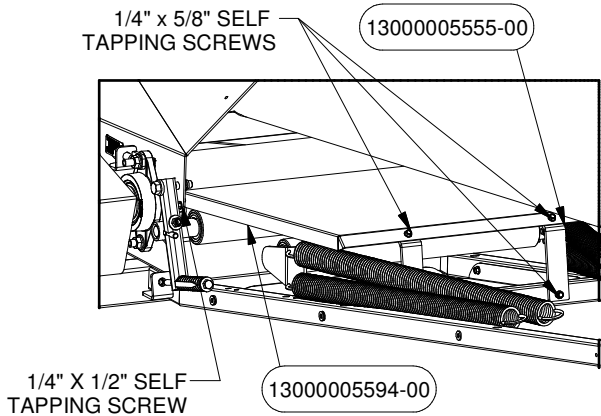

FIGURE 11
22. Attach the Top Guard PN# 5594 to the Intake using the Brackets PN# 5555 and fasten it using Self Tapping Screws that can be found in Bolt Bag PN# 5830 (See Figure 11).